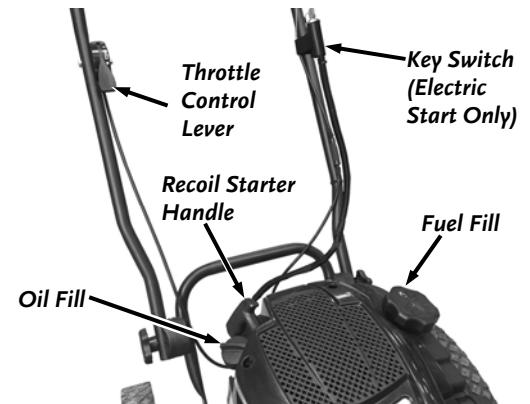

Figure 10
1. Check the oil level every time you use the DR TRIMMER/MOWER (**Figure 10**).
1. Push the Throttle Control Lever all the way forward to the Run  position (**Figure 10**).